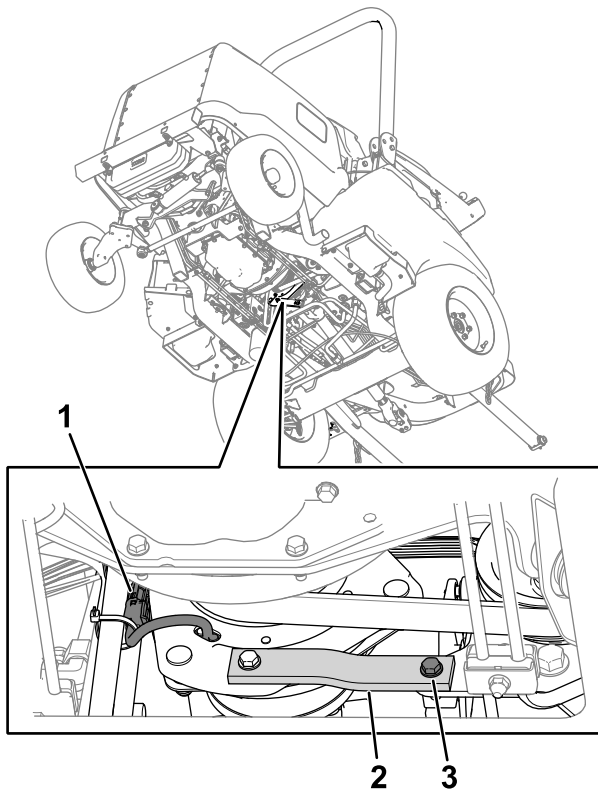

Figure 79
2. Unplug the clutch-wire-harness connector from the machine wire harness (Figure 79).
3. Remove the bolt, washer, and nut from the metal and rubber straps (Figure 79) on the frame.